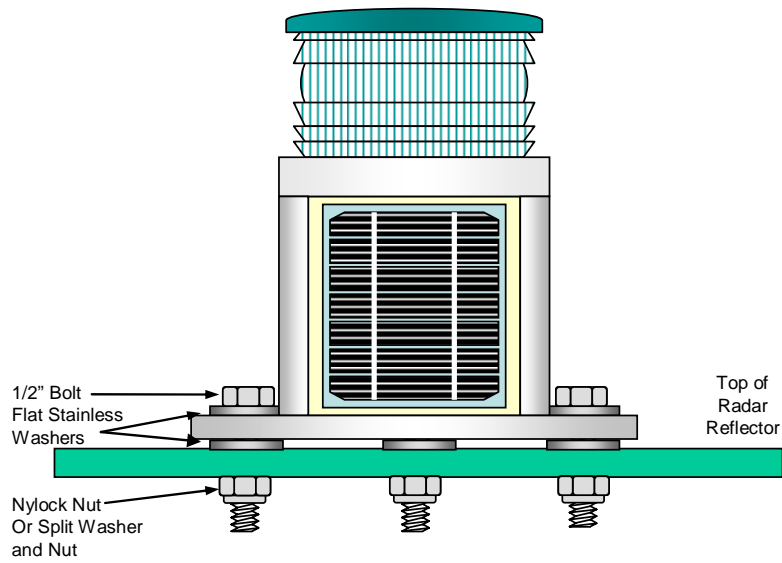

Figure 3-5
- c. On steel buoys, install three ½" stainless steel bolts and flat washers through the lantern mounting holes, three flat washers between the lantern and buoy top plate and finally three split lock washers and nuts to secure the lantern. **The lantern vents through a hole in the bottom of the lantern's base, so the lantern CAN NOT be mounted flush with the buoy's mounting plate.** The flat washers provide this air-space. Avoid tall bolts that could shadow the solar panels. Nylock nuts can replace split washers and nuts. See Figure 3-5.